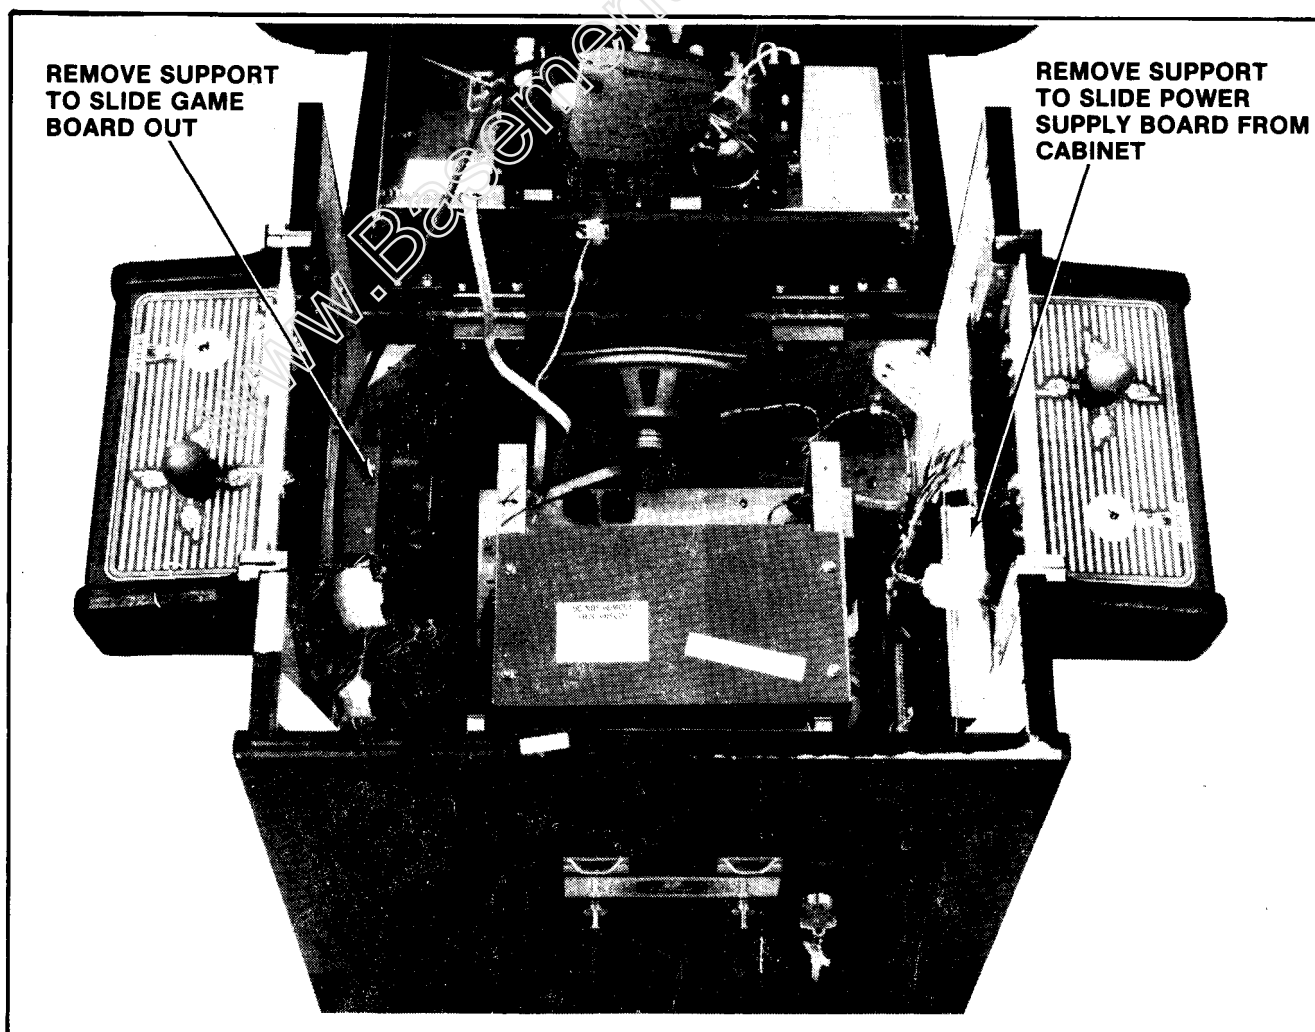

Figure 2-24 Removing P.C.B's - Cocktail
**2.8.3 COCKTAIL TABLE MODEL:** (See Figure 2-24)
- ☐ To remove the power supply board. See Figure 2-24.
- ☐ To remove the game and sound boards. See Figure 2-24.